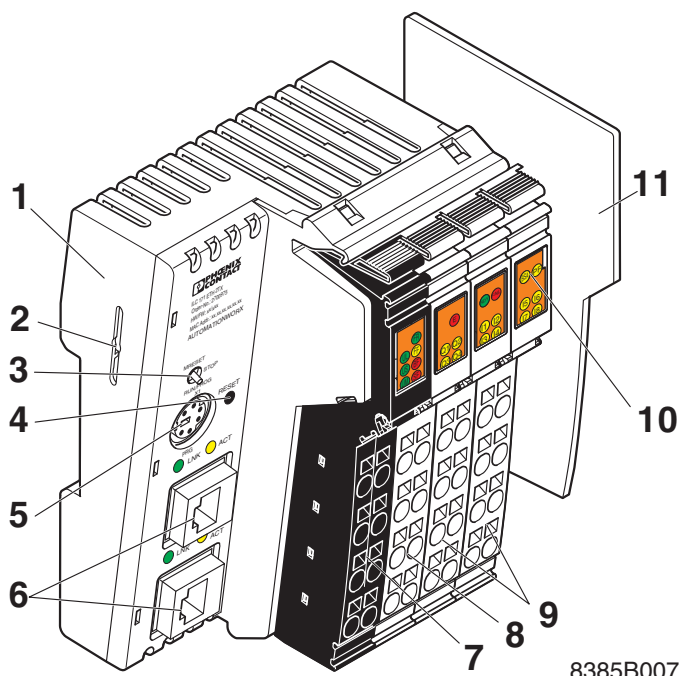

Figure 2-7 Structure of the Inline controller (ILC 171 ETH 2TX, ILC 191 ETH 2TX; shown in the figure: ILC 171 ETH 2TX)
The reset button on the Inline controller (see item 4 in Figure 2-6 on page 19/item 4 in Figure 2-7 on page 20) can only be operated with a pointed object (such as a pen) and is therefore protected against accidental activation.